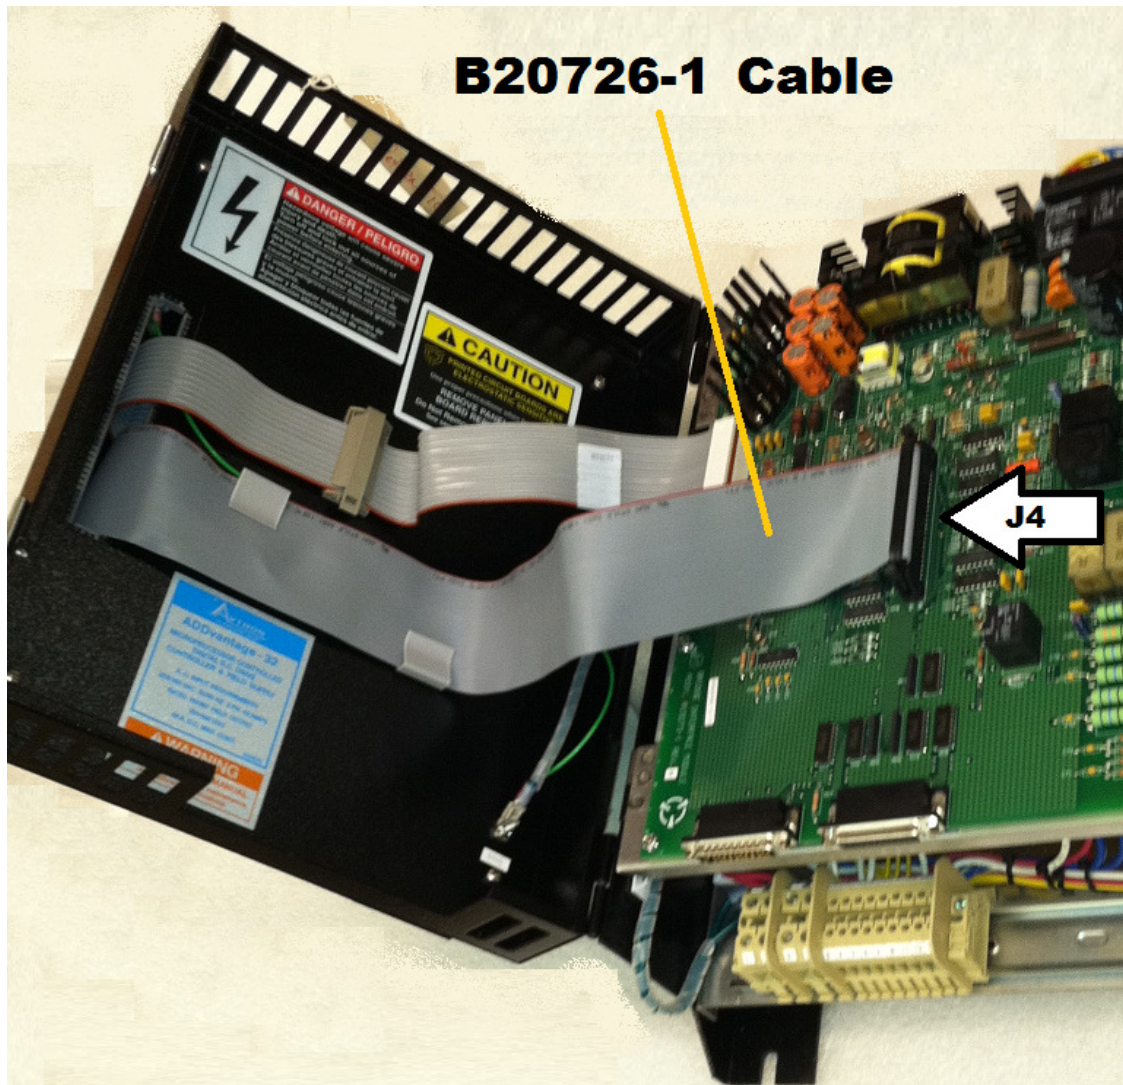

Figure 12-7. The B20726-1 ribbon cable is installed in connector J4 of the bridge interface board and is routed across the drive cover.
- 6 The B20726-1 ribbon cable removed in step 4 will be reinstalled. One side of the cable plugs into connector J4 on the bridge interface board and routes across the back of the drive cover and through the slot into the electronics enclosure. The position and routing of the B20726-1 cable is shown in Figure 12-7.